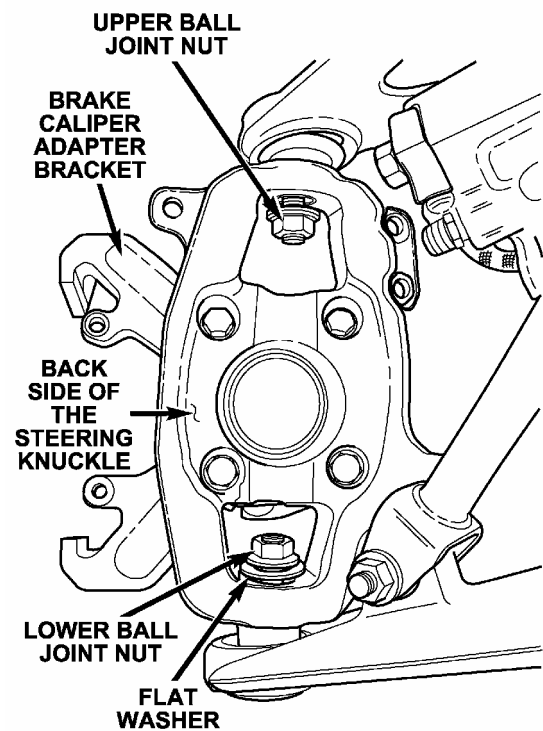

Figure 7
25. Place the steering knuckle into position and install the new upper ball joint nut (Figure 7).
26. Install the provided lower ball joint flat washer and nut onto the ball joint stud (Figure 7).